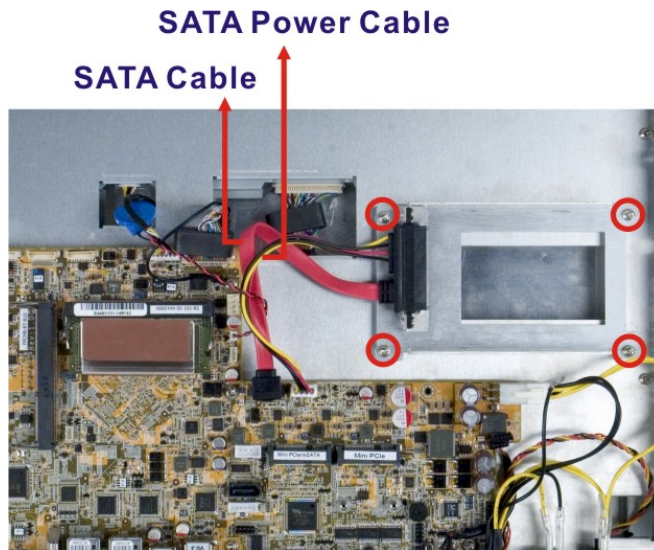

Figure 3-5: PPC-F17B-BTi HDD Bracket Retention Screws
Step 2: Remove the HDD bracket from the PPC-F12B/15B/17B/19B-BTi. The HDD bracket is secured on the panel PC with four retention screws (Figure 3-5).